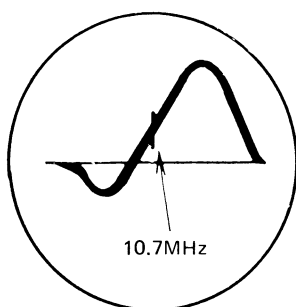

Fig. 9
3. Align the L20 so that the response of S-curve will change to a peak. (Refer to Figs. 9 & 10.)